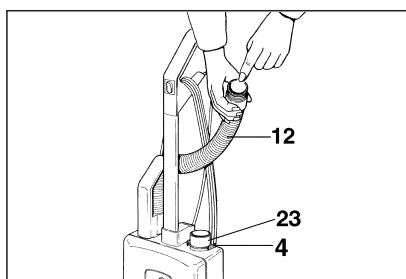

Figure 13
### Clogs in the Attachment Hose - Figure 13
Remove attachment hose (12) from the vacuum cleaner (see figure 13) and remove tube from the machine. A straight piece of wood can be inserted into the tube to push out the clog.
Remove attachment hose (12) from vacuum cleaner (see figure 13) and remove front cover (7). Clean out connecting tube (23) and/or entrance to bag (28).